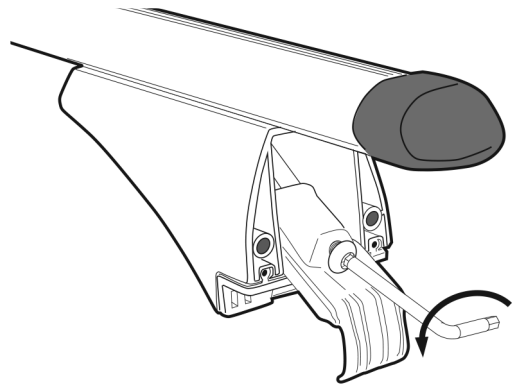

Fig. 6
3. Once the roof bars are positioned, secure the bolts back in place using the supplied allen key on each end of both roof bars Figure 6.